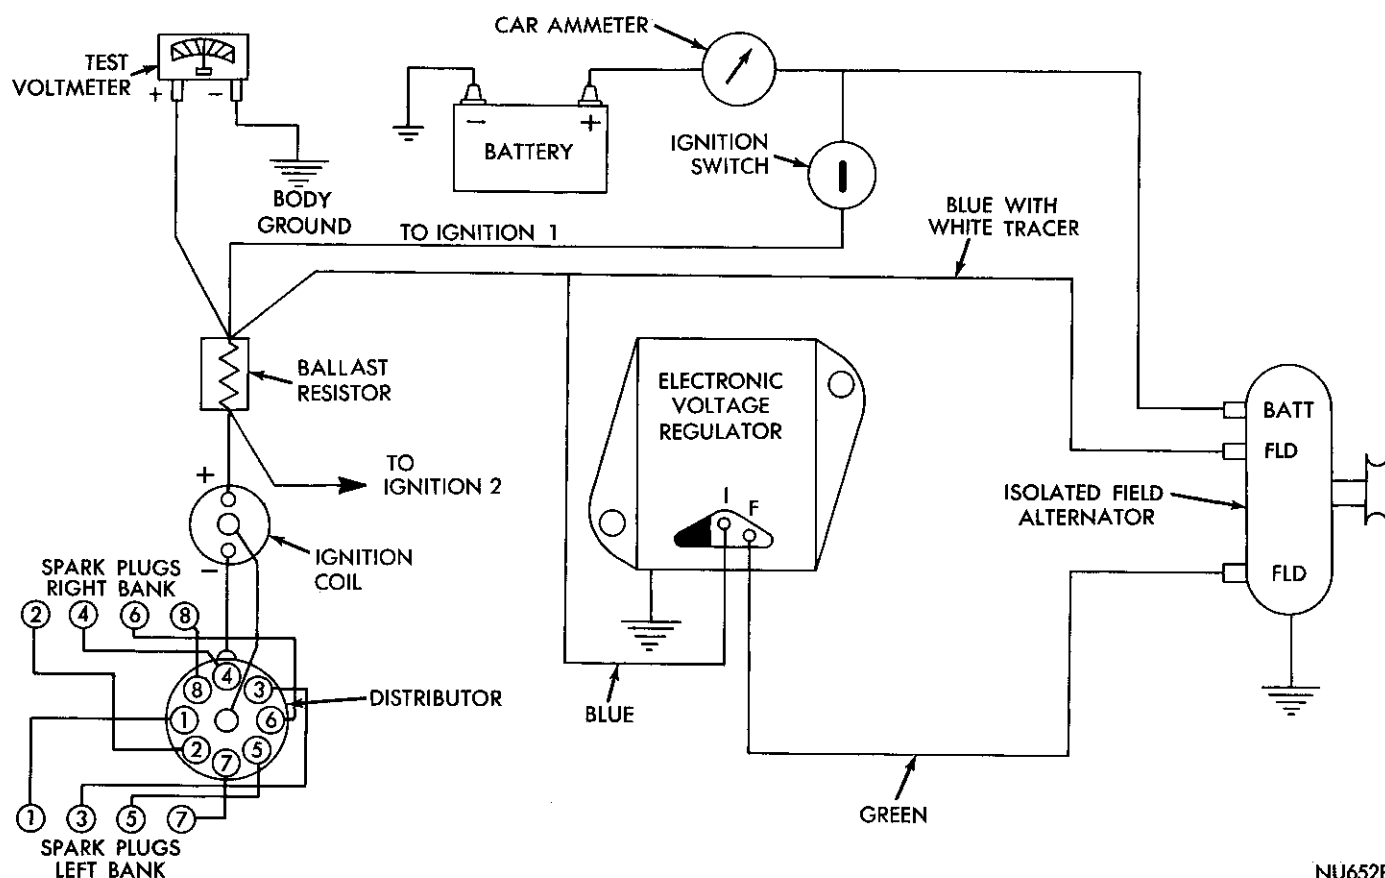

Fig. 5—Voltage Regulator Test (Without Tester Tool C-4133)
(2) Connect the positive lead from a voltmeter to the ignition Number one (1) terminal of the ballast resistor. (The Ignition Number one (1) terminal of the ballast resistor is the end which has one or two blue wires connected to it.) The other end, Ignition Number two (2), will have a brown and blue wire or just a brown wire connected to it (Fig. 5).
(3) Connect the negative lead from the voltmeter to a good vehicle body ground.
(4) Start and operate engine at 1250 rpm with all lights and accessories turned off. Check voltmeter, the regulator is working properly if the voltage readings are in accordance with the following chart.